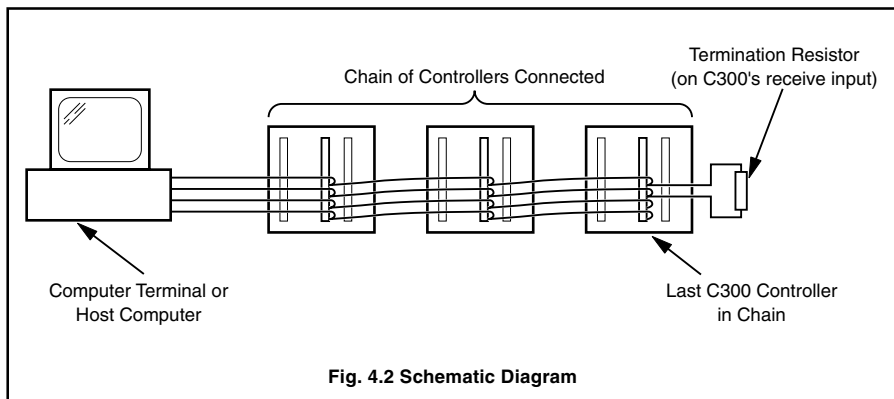
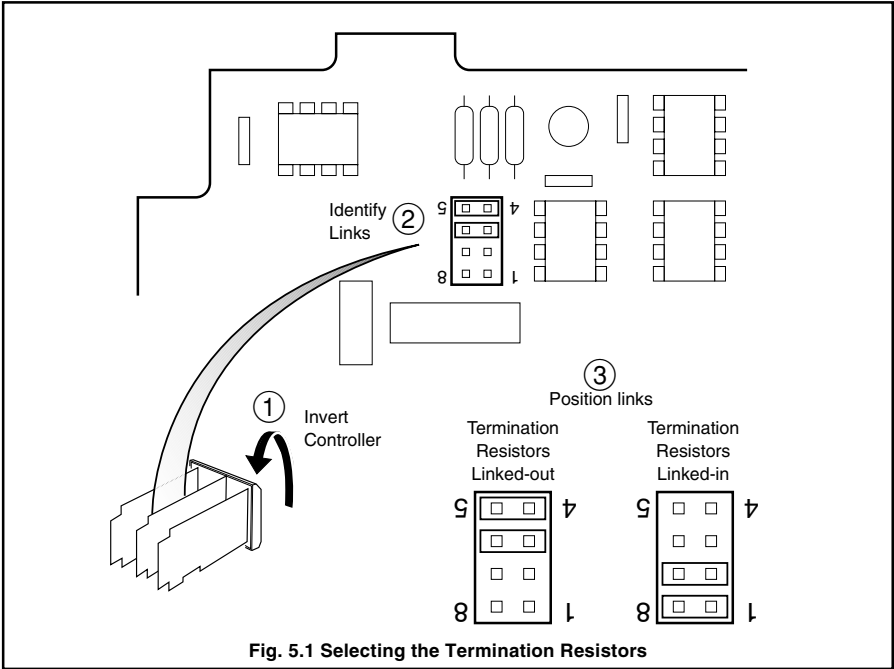

Fig. 4.2 Schematic Diagram
Fig. 5.1 Selecting the Termination Resistors
The controllers must be connected in parallel as shown in the schematic diagram – Fig. 4.2. The RS485 standard quotes connection of thirty two slaves (C300 Controllers) maximum to any single driver (computer terminal or host computer); the RS422 standard quotes connection of up to ten slaves. However, these numbers can be increased if the driver's serial port permits.
For all aspects other than serial data transmission the controller is set up as shown in the Operating Instructions (IM/C300). Unless otherwise requested, the instrument is despatched with a transmission rate of 9600 baud and transmission line termination resistors linked-out. If the resistors are to be linked-in (see Fig. 4.2) carry out the following section.
5.1 Termination Resistors – Fig. 5.1
For long transmission lines, termination resistors are required on the last C300 Controller in the chain and at the host computer/computer terminal – see Fig. 4.2. Under normal operating conditions the resistors are required at the receive inputs only. The controller's resistors are selected using plug-in links – see Fig. 5.1.
Switch off the supply and remove the controller from its case (Fig. 2.1 in the Operating Instructions, IM/C300). Set the termination resistor links as shown in Fig. 5.1.